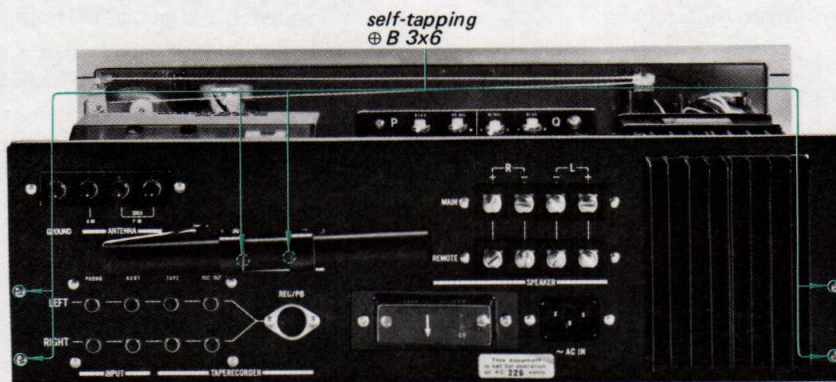

Fig. 2-17. Rear panel removal
4. Remove the six self-tapping screws ( $\oplus B 3 \times 6$ ), two of them secure the bar antenna holder to the chassis along with rear panel and others secure the rear panel to the chassis as shown in Fig. 2-17. This frees the rear panel.